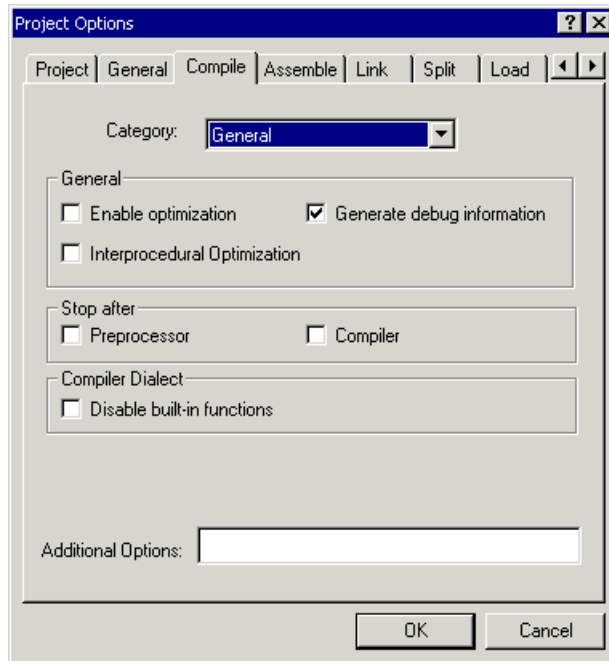

Figure 3-13. Project Options Dialog Box: Compile Tab Page
7. Click the **Compile** tab to display the **Compile** tab page, shown in Figure 3-13.